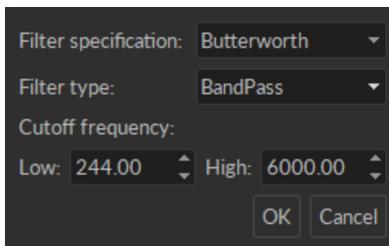

Figure 3.34: *Filter Window*
- The **Filter** button is used to filter the frequency of data sets. After selecting the data set to be filtered, the filter window (Fig. 3.34) is opened. This allows a choice of filter type and variables.